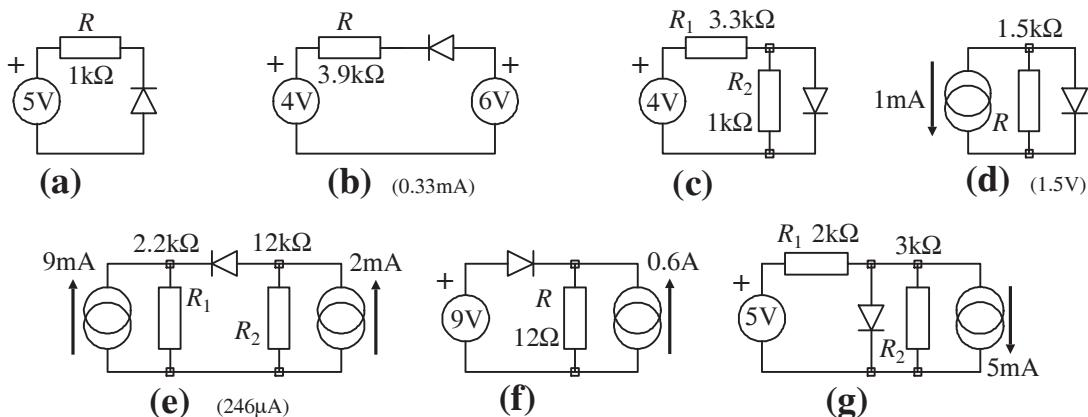
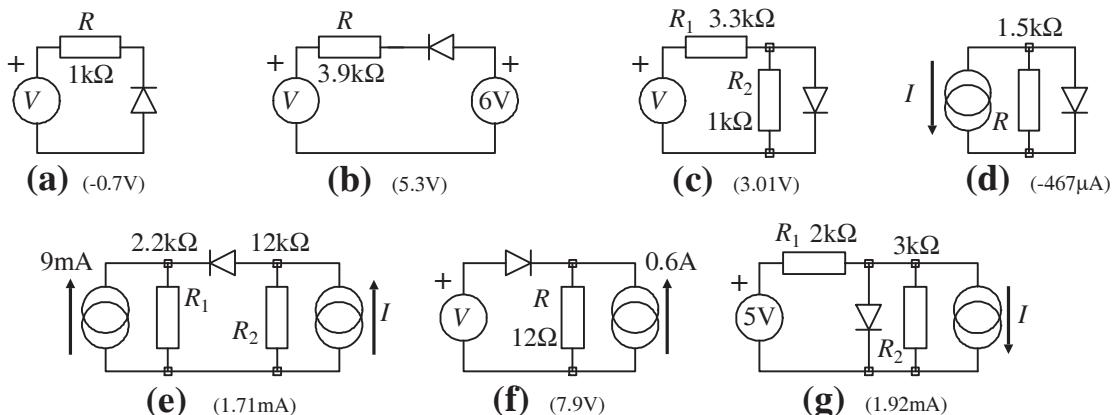
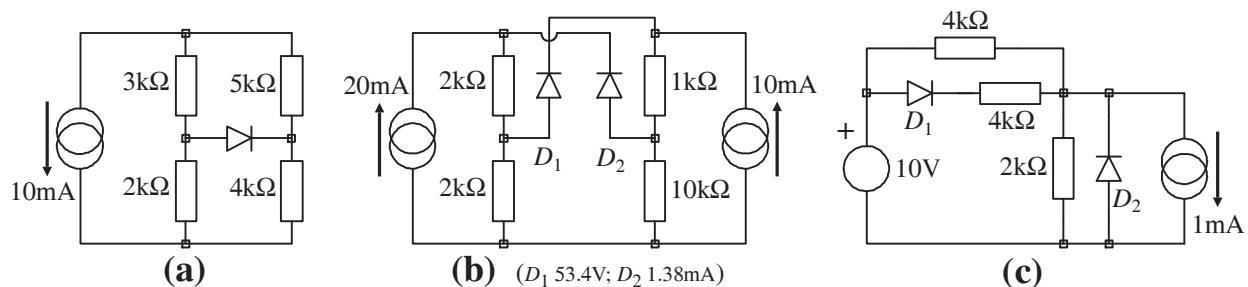
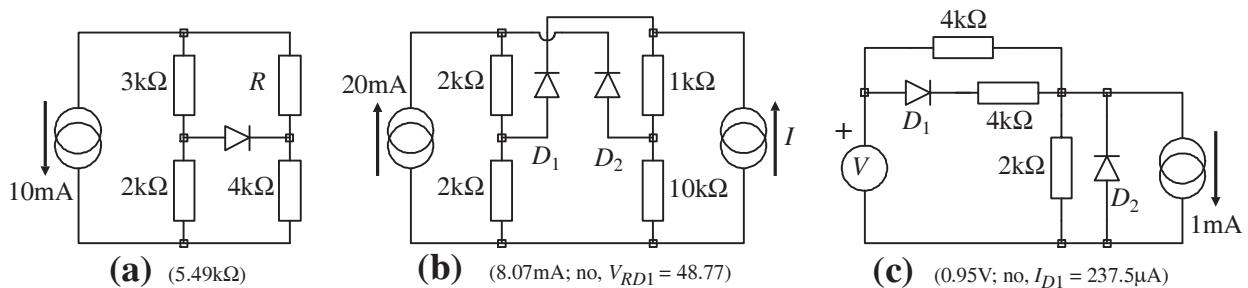

Figure 1
Figure 2
Figure 3
Figure 4
- Q1** For the circuits of figure 1, identify the conduction state of the diode and calculate either the reverse bias voltage or the forward bias current, as appropriate. Assume that the diodes perfectly block current flow for all anode - cathode voltages less than 0.7V (the reverse bias state) and conduct perfectly if the circuit tries to make the anode - cathode voltage greater than 0.7V. Note that the answers give the magnitude of the reverse bias voltage or forward current as appropriate. Since answers will let you avoid the guess stage, only some answers are given.
- Q2** The circuits of figure 2 are the same as figure 1 except that the source (or one of the sources) has been changed from a fixed value to a variable one. Find the value of the variable source at which the diode changes from a conducting to a non-conducting state.
- Q3** The circuits in figure 3 are more complicated than those in figure 1. Identify the conduction state of the diode(s) and calculate either the reverse bias voltage or the forward bias current, as appropriate. Assume that the diodes perfectly block current flow for all anode - cathode voltages less than 0.7V (the reverse bias state) and conduct perfectly if the circuit tries to make the anode - cathode voltage greater than 0.7V. Note: In circuits with two diodes there are in principle four possible combinations of conduction state. Start by making a guess for both diodes and proceed as for a single diode to find out whether your guesses were right.
- Q4** The circuits of figure 4 are the same as figure 3 except that a source or component has been changed from a fixed value to a variable one. Find